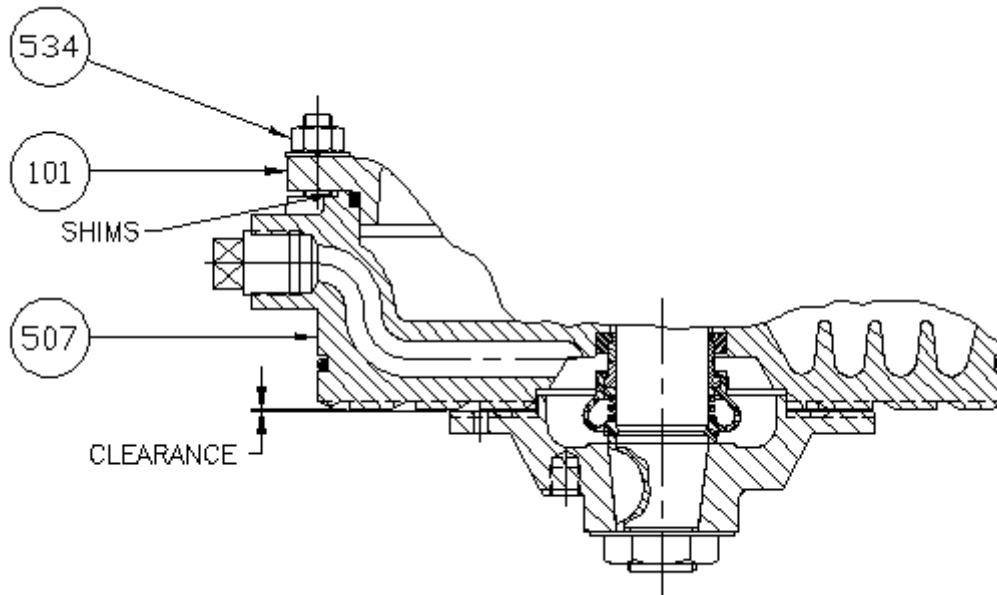

FIGURE 3
7. Check the seals by removing one plug (536) and pressurizing the oil chamber to approximately 7psi with a dry compressed air source, such as a bicycle tire pump, and a low-pressure gage. Check for leaks by watching for gage pressure loss, or by applying a soapy water solution to the seal and o-ring areas and looking for bubbles.
8. Install the impeller flange (165), and check the clearance between this part and the back cover (507) with a feeler gage, as shown in Figure 3. The acceptable clearance range is .011 to .019". If the clearance is excessive, add shim stock at each fastener (534) between the bearing frame (101) and the back cover (507). The thickness to be added can be calculated by subtracting .015" from the actual clearance measured, rounded to the nearest common shim stock size.
3. Place a new o-ring (146) on the bearing cap (102) register. Assemble bearing cap (102) to bearing frame (101), and fasten with fastening set (141).
5. Slide the rotating seal assembly onto the shaft until the seal faces are in contact. A sleeve or tool similar to Figure 3 above may be used.